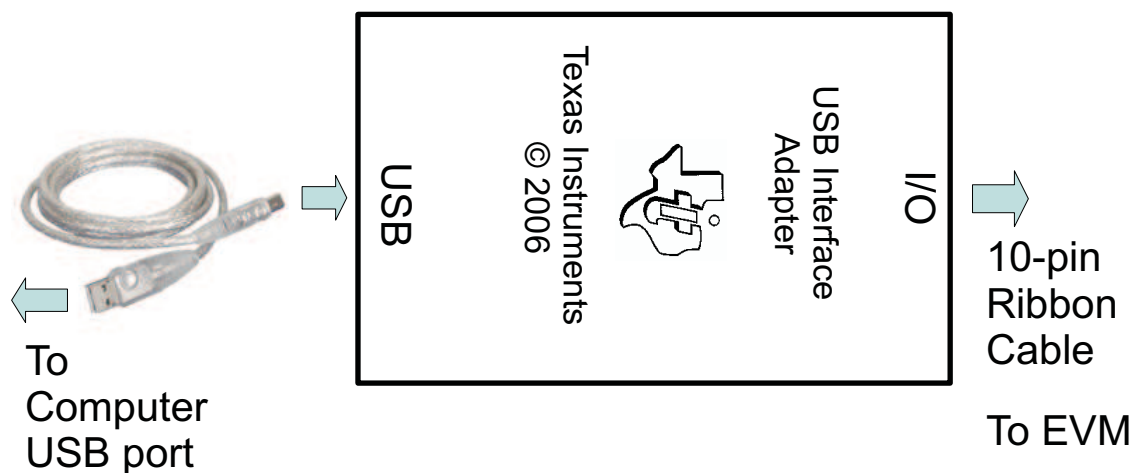

Figure 1. Connections of HPA172 Kit
6. Connect J5 to HPA172 kit by the 10-pin ribbon cable. Connect the USB port of the HPA172 kit to the USB port of the computer. The connections are shown in Figure 1.